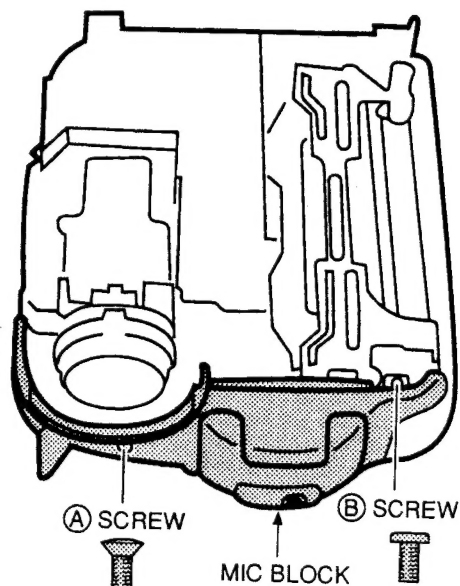

Fig.1-8
3. Remove the (A) and (B) screws which retain the MIC BLOCK as shown in Fig.1-8.